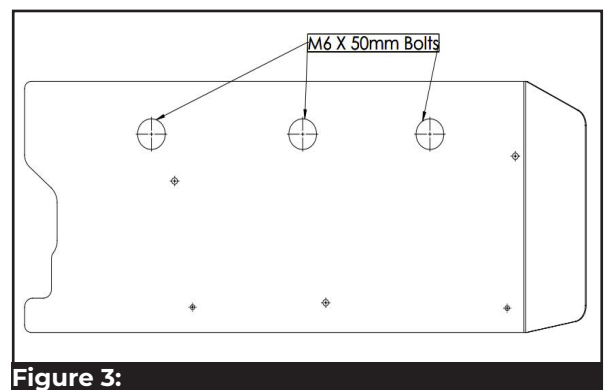

Figure 3:
- 4 Insert the M6 X 50mm bolts through the molle plate and 1 inch spacers, and thread them into the preexisting holes in the tailgate (figure 3).